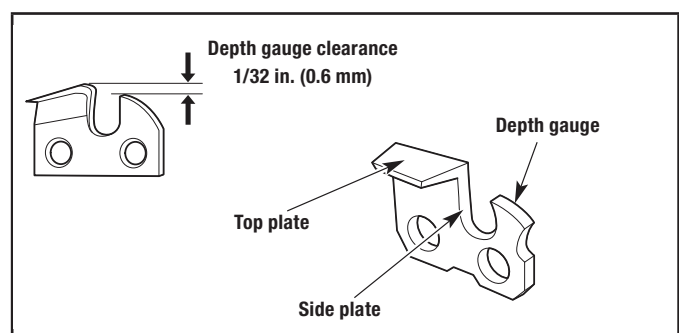

Figure 32
- 2b. Keep the file level with the top plate of the cutter (Fig. 32). Do not let the file dip or rock. Use light, but firm pressure.